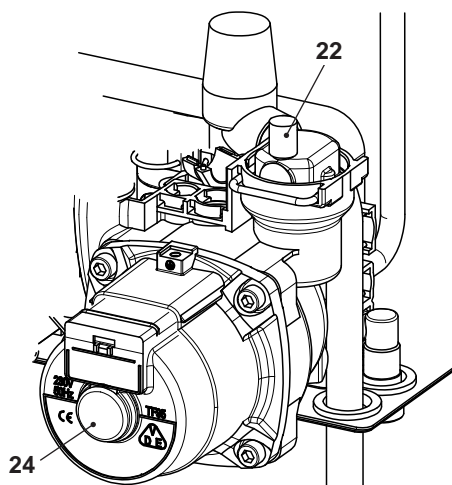

Fig. 7.2
- Lift the plug on the automatic air purger valve 22 in Fig. 7.2 and leave open permanently.
- Purge the air from the pump by unscrewing the pump plug 24 (Fig. 7.2); release the pump shaft by turning in the direction indicated by the arrow on the information plate.